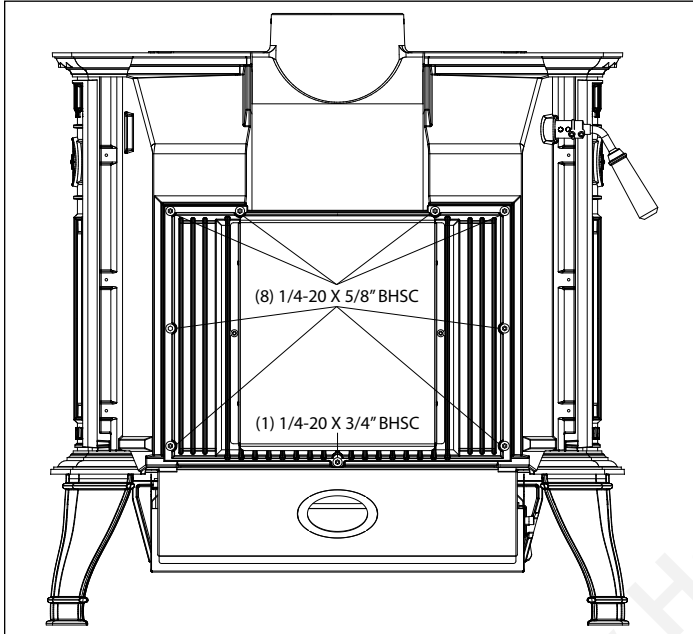

Figure 1
1. Once the venting is removed, if needed, you will need to remove the rear housing by removing (8) 1/4-20 x 5/8" BHSC and (1) 1/4-20 x 3/4" BHSC. Figure 1.